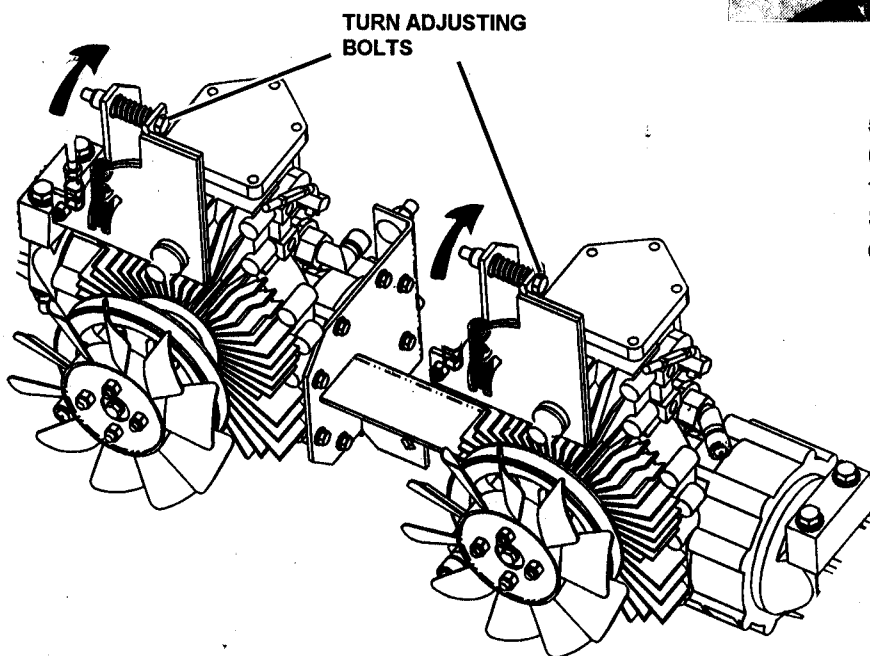

FIGURE 4.1
7. If wheel(s) are rotating, turn adjusting bolts located on pump(s) clockwise until wheel(s) stop rotating. See Figure 4.1